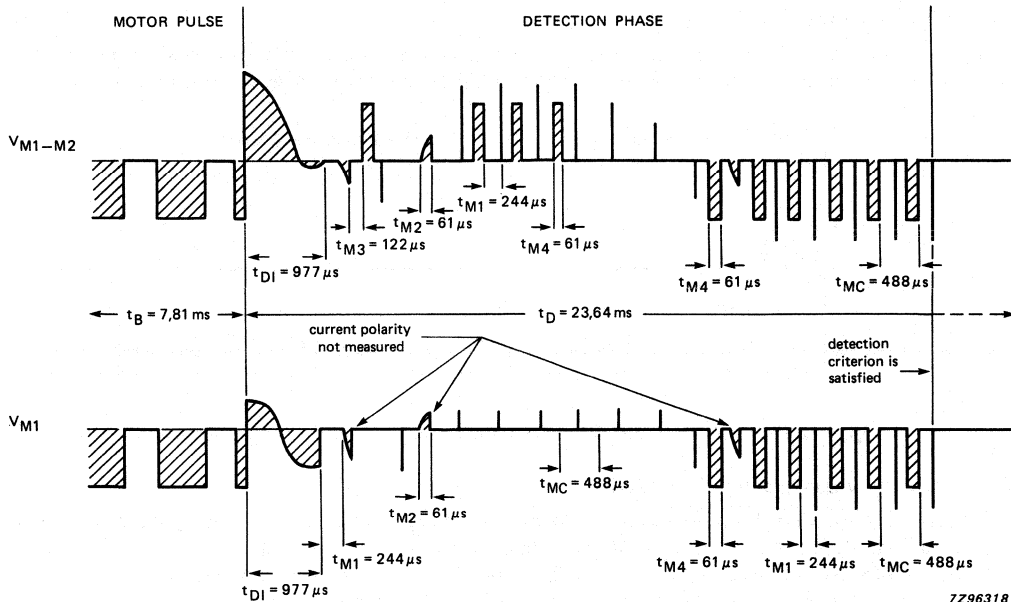

Fig. 7 Detection phase of the current waveform in Fig. 6.
- number of measured positive current polarities since the first negative current polarity is detected after part 1 (see Fig. 7)
A successfully detected current polarity is normally characterized by a short pulse of 0,5 to 10  $\mu s$  with a voltage up to  $\pm 2,1 V$ , failed polarity detection by the maximum pulse width of 61  $\mu s$  and a voltage of  $\pm 0,5 V$  (see Fig. 7).